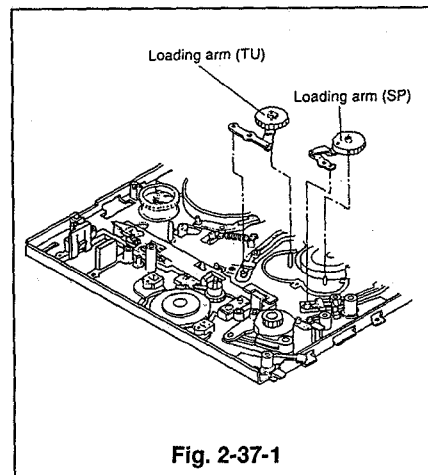
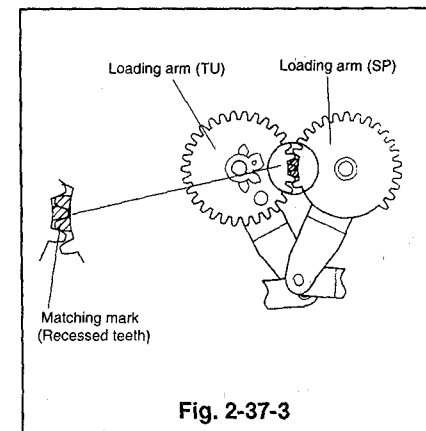

Fig. 2-37-1
Fig. 2-37-3
- 5 Raise the loading arms upward, first SP and then TU, to remove them. (Refer to Fig. 2-37-1)
- 2 Place the new loading arm (TU) in the position shown in Fig. 2-37-1, then place the loading arm (SP) in the position shown in Fig. 2-37-1 at the same time aligning the marks on the cogs, refer Fig. 2-37-3 (shaded area).
- ② Align the loading arms TU and SP so that the matching marks of the cogs align. (Refer to Fig. 2-37-3)